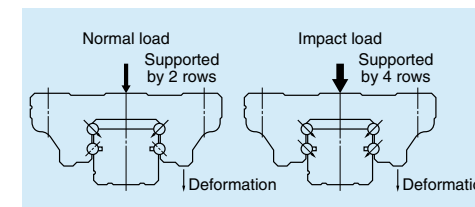

Fig. 5 Shock-resistance
(1) High precision and quality
(2) High reliability and durability
(3) Abundant in type for any purpose
(4) Development of random-matching parts for short delivery time
(5) Patented static load carrying capacity (shock-resistance)
- When a super-high load (impact) is applied, our Gothic arch groove spreads the load to surfaces which usually do not come into contact in the ball type NSK linear guides. This increases impact load resistance (Fig. 5).
(6) Lineup of extremely high-load capacity series